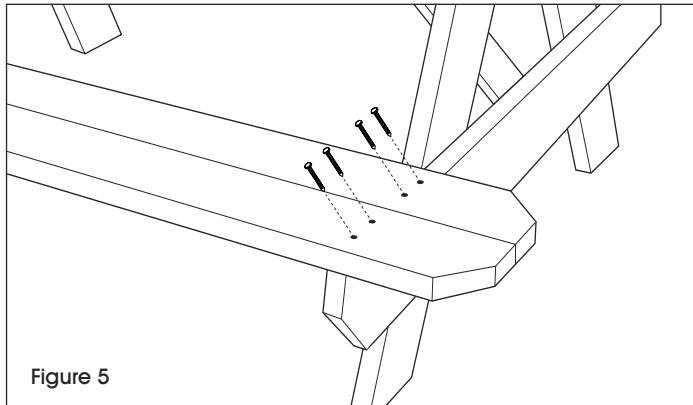

Figure 5
11. Place the outside edge of the seat bench flush with the ends of the seat braces and align the ends of the bench with the edge of the table top. Use a 1/8" drill bit to pre-drill holes and avoid splitting. Attach the seat bench to the braces using eight 2 1/2" wood screws per bench seat. Repeat for opposite seat bench. (See Figure 5)